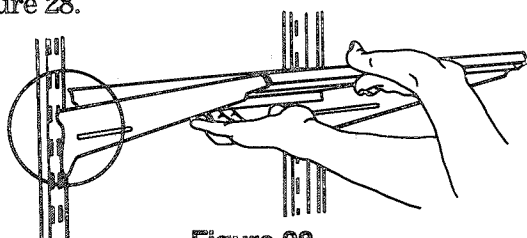

Figure 28
- Insert metal hooks at back of shelf into desired slot in metal track on back wall of freezer. See Figure 28.